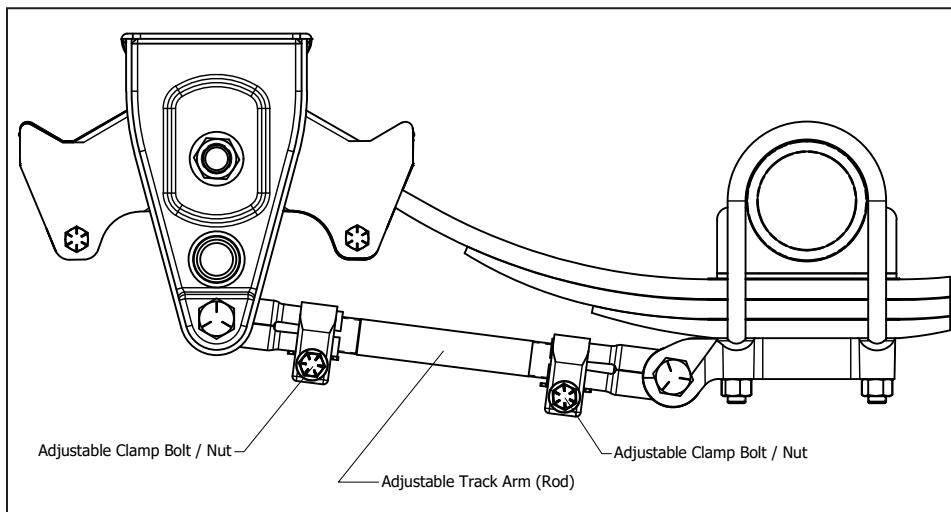

Figure 1
To align a four (4) spring suspension, there is one adjustable track arm (rod) on each axle. These will typically be on the road (left) side. Release the clamps at each end of the adjustable rod (Figure 1). Align front axle with the king pin and adjust each axle thereafter parallel to the front axle. Be sure to secure the clamps on the adjustable track arm (rod) after alignment (Figure 1).
Alignment Procedure (Figure 1)
1. Loosen the adjustable track rod clamp bolts (Figure 1) and turn the center rod to adjust as necessary (see torque table).
2. After adjusting, tighten the adjustable track rod clamp nuts (Figure 1) to proper torque (see torque table) and recheck measurements.